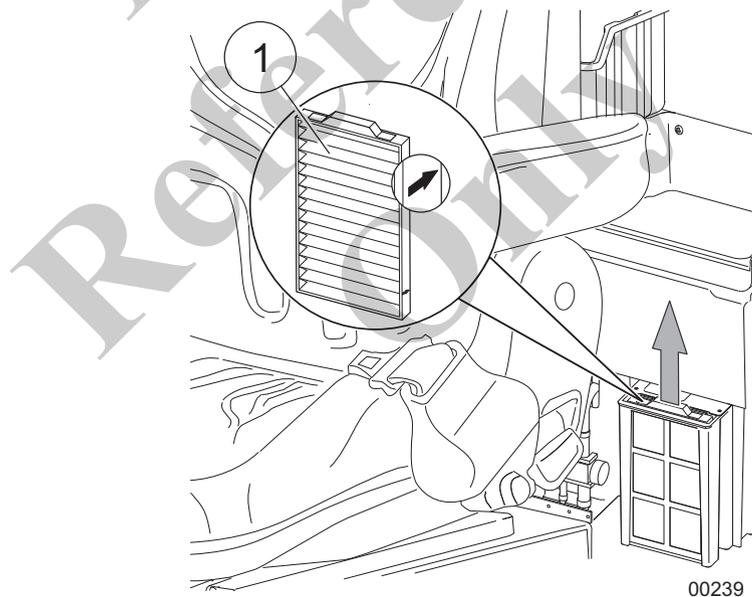

Fig. 240 Recirculating air filter
1	Use the handle to pull the filter element (1) in Fig. 240 out of the filter cartridge.